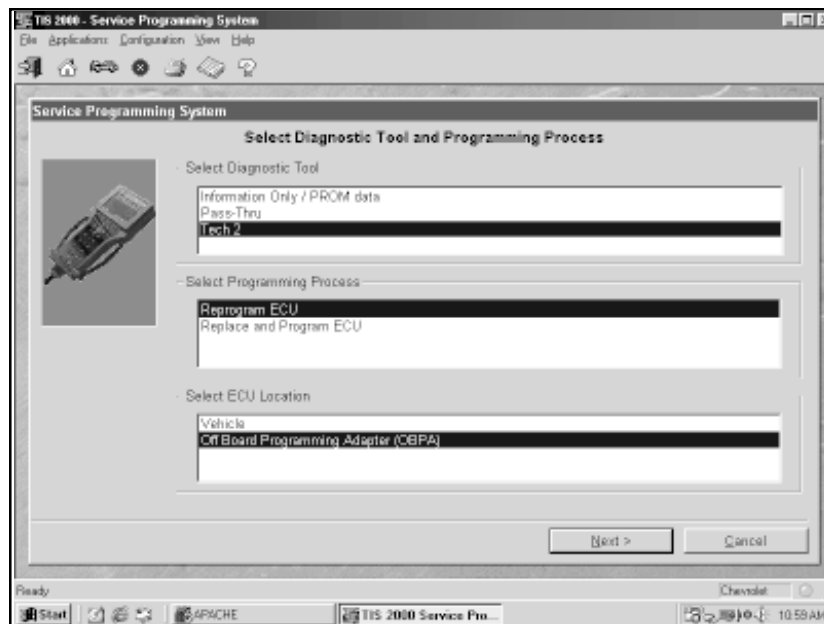

Figure I-4, Make SPS Selections
- 2.4 At the Select Diagnostic Tool and Programming Process screen (Figure I-4), make the appropriate selection for your procedure: